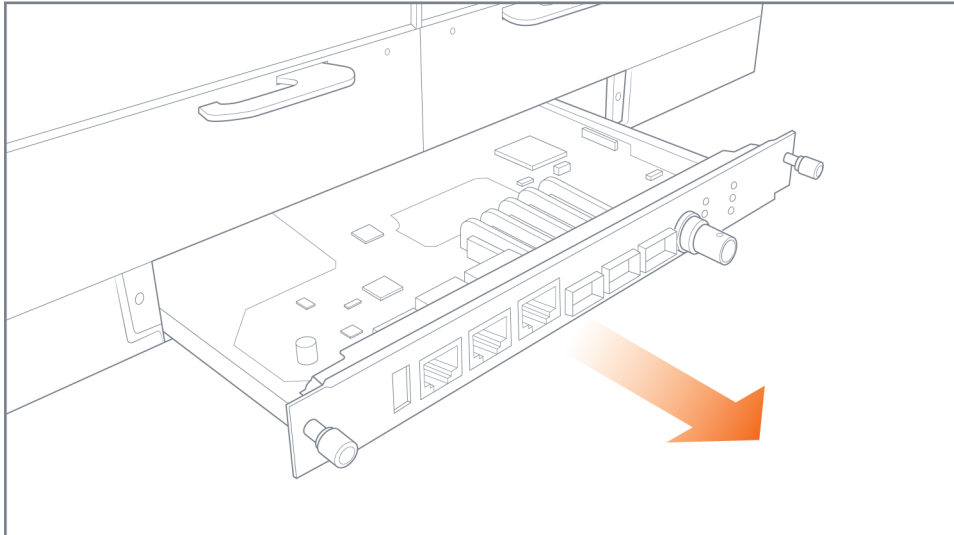

Figure 16 *Extension Board Removal*
4. Pull out the extension board as shown in Figure 16 Extension Board Removal.